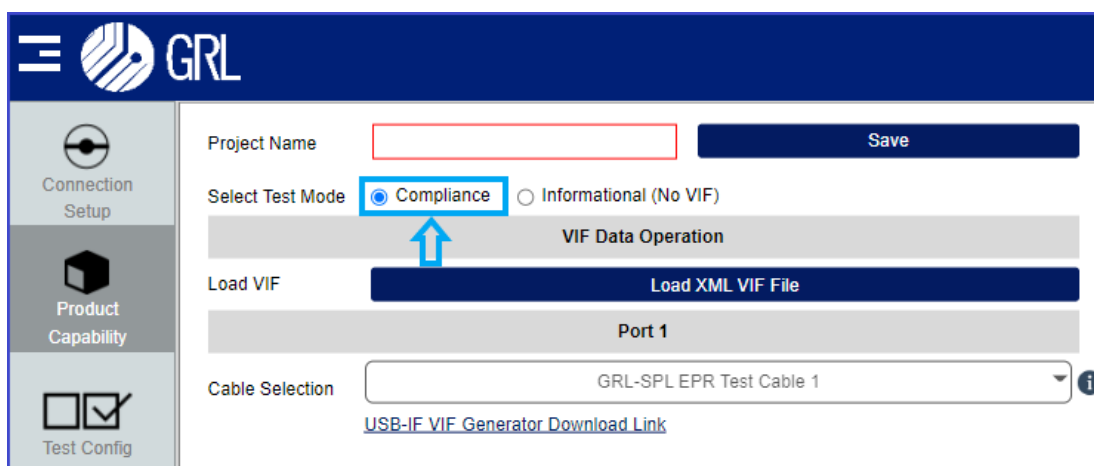

FIGURE 3.1: SELECTING COMPLIANCE TEST MODE
1. Select the **Compliance** Test Mode radio button as shown in Figure 3.1 below.